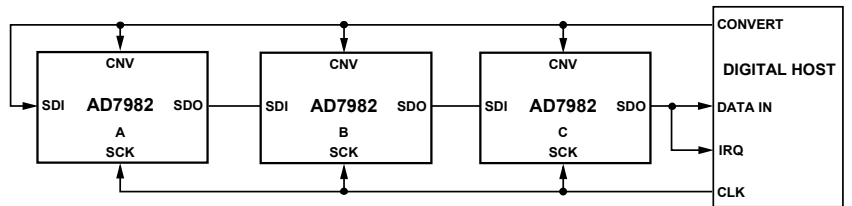
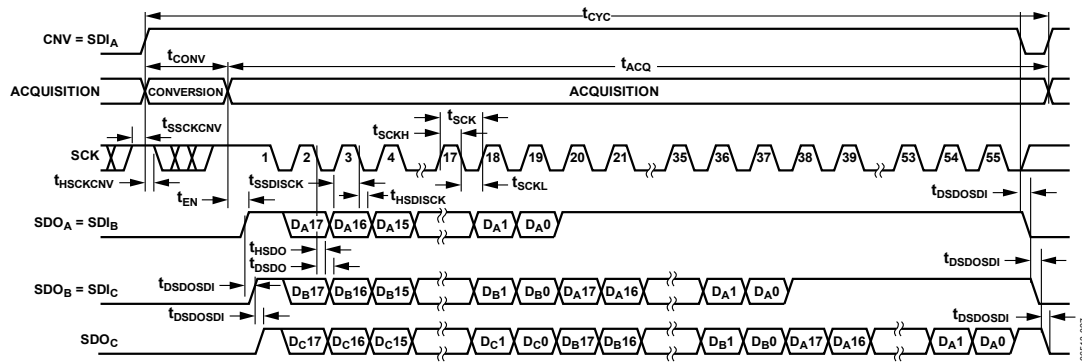

Figure 38. Chain Mode with Busy Indicator Connection Diagram
Figure 39. Chain Mode with Busy Indicator Serial Interface Timing
- In the chain mode if SCK is high during the CNV rising edge (see Figure 39).
Figure 38 shows a connection diagram example using three AD7982 devices, and Figure 39 shows the corresponding timing.
In this mode, CNV is held high during the conversion phase and the subsequent data readback. When all ADCs in the chain have completed their conversions, the SDO pin of the ADC closest to the digital host (see the AD7982 ADC labeled C in Figure 38) is driven high. The transition of driving the SDO pin of the ADC to high can be used as a busy indicator to trigger the data readback controlled by the digital host. The AD7982 then enters the acquisition phase and powers down. The data bits stored in the internal shift register are clocked out, MSB first, by subsequent SCK falling edges. For each ADC, SDI feeds the input of the internal shift register and is clocked by the SCK falling edge. Each ADC in the chain outputs its data MSB first, and $18 \times N + 1$ clocks are required to read back the N ADCs. Although the rising edge can capture the data, a digital host using the SCK falling edge allows a faster reading rate and consequently more AD7982 devices in the chain, provided the digital host has an acceptable hold time.